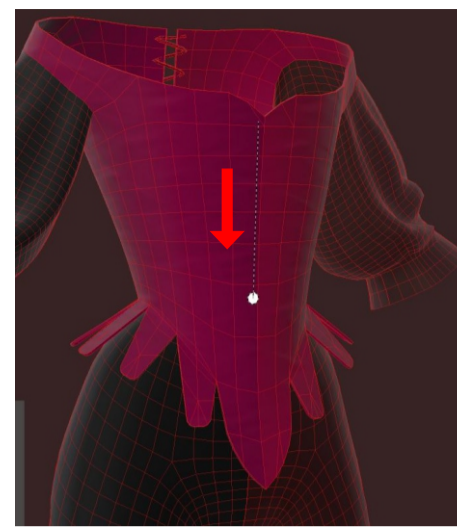

fig. 29 Drawing the straight line
**Tip:** If you want to paint a straight segment just hold the SHIFT button between the clicks and the straight brush stroke will appear between the clicks. (fig.29) By holding SHIFT constantly you'll be able to paint a polyline made out of straight segments. I actually use this mode all the time.